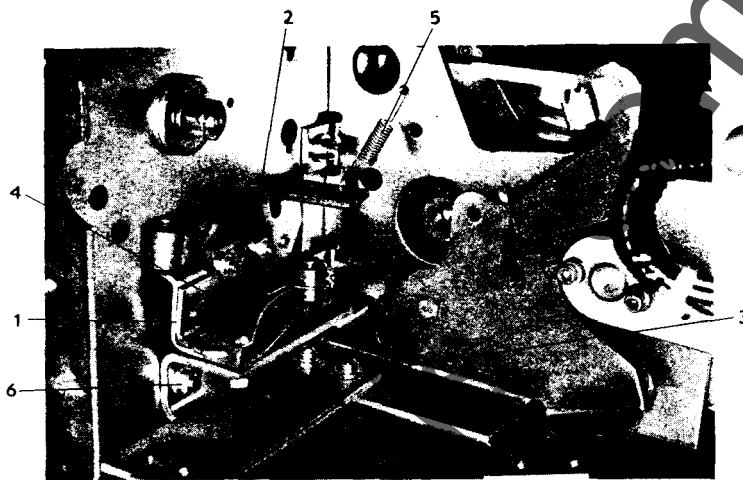

Fig. A18 Negative and Redundant Negative Interlock (Shown with trip coil, trip shaft and latch checking switch removed)
With the breaker open and the closing spring discharged remove the two bolts, (6) Fig. A18, holding the interlock to the left side frame of the breaker and two bolts, (3) Fig. A18, to the trip coil mounting frame. Remove the latch checking switch (52LCS) and the negative interlock return spring. Slide the negative interlock out through the bottom of the mechanism frame.
Remove the redundant negative interlock return spring, (5) Fig. A18, and the two bolts holding the interlock, (2) Fig. A18, to the mechanism frame. Slide the interlock out through the bottom of the breaker.